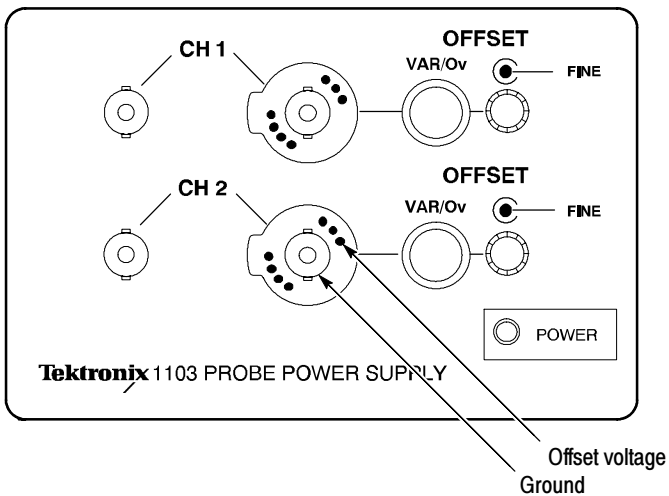

Figure 19: 1103 power supply offset voltage location
2. Using a DMM, adjust the 1103 offset voltage to -0.25 V . Refer to Figure 19 for the location of the offset voltage test point.